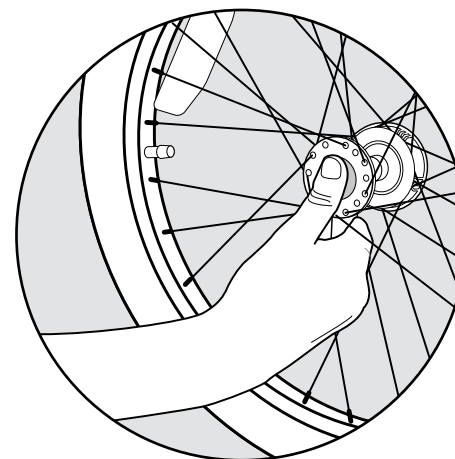

Figure 4
1. Push in the rubber button on the outside of the wheel hub (Figure 4).